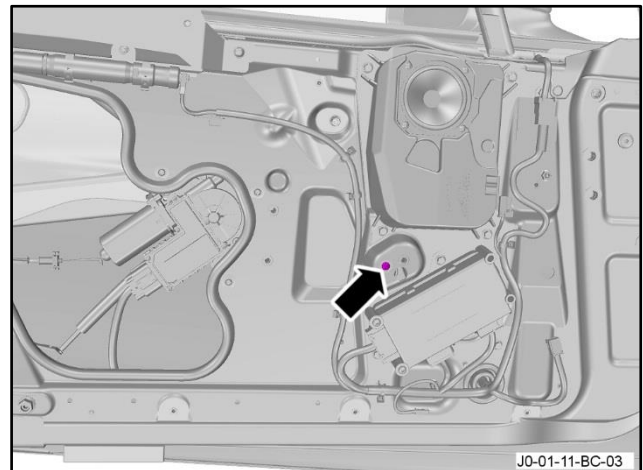

Figure 34
20. Carefully tighten the front clamp screw for the door glass enough to hold the glass (refer to Figure 34).